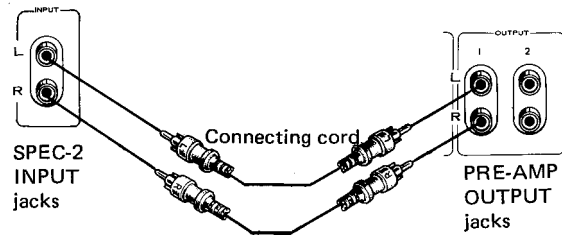

Fig. 1
As shown in Fig. 1, use the accessory connecting cords to connect the INPUT jacks of the SPEC-2 with the PRE OUT jacks of a stereo pre-amplifier. The upper jack is for the left (L) channel and the lower jack for the right (R) channel.